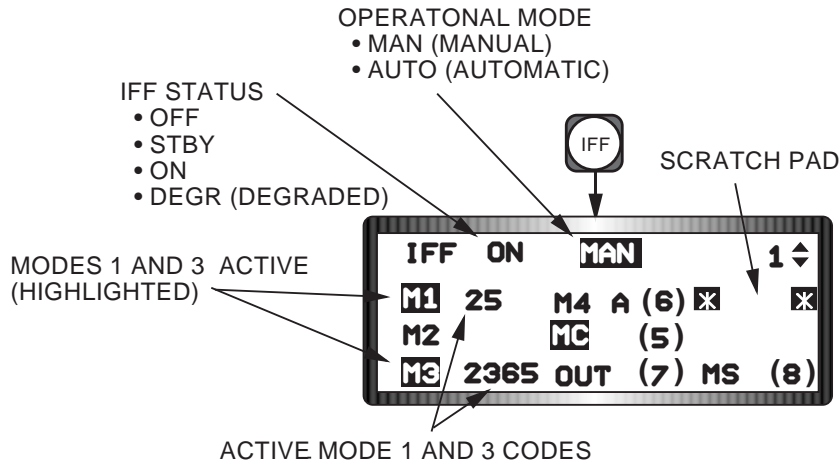

Figure 1-51 Manual IFF Transponder DED Page
AIFF Transponder. The transponder operates in one of two modes: Auto or Manual. Auto IFF provides automatic switching of modes or codes based on either time or present aircraft position. Manual allows the pilot to independently control the selection and activation of transponder modes and codes. IFF transponder pages are accessed by depressing the IFF override push button on the ICP. The first IFF page that will appear is the Manual (MAN) transponder DED page (Figure 1-51). The MAN mnemonic must be mode selected (highlighted) before modes and codes can be manually entered into the transponder. Mode selection is accomplished by placing the asterisks around the MAN mnemonic and depressing the “M-SEL” (O) button on the ICP.